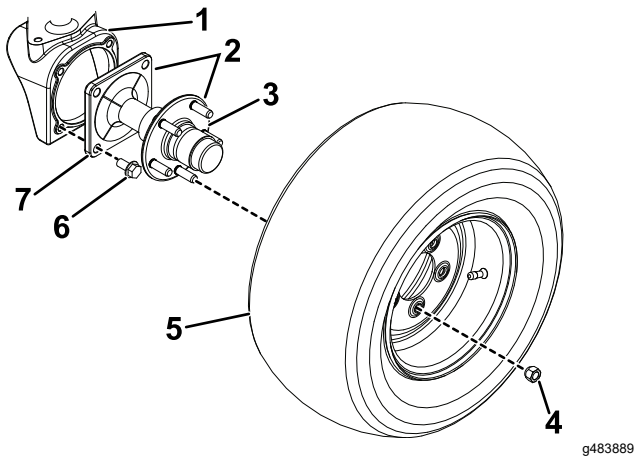

Figure 1
2. Remove the 5 lug nuts securing each rear tire to the wheel spindle hub (Figure 1). Remove the tires.
3. Remove the spindle hub assemblies from the wheel housings by removing the 4 flange bolts securing each in place (Figure 1).